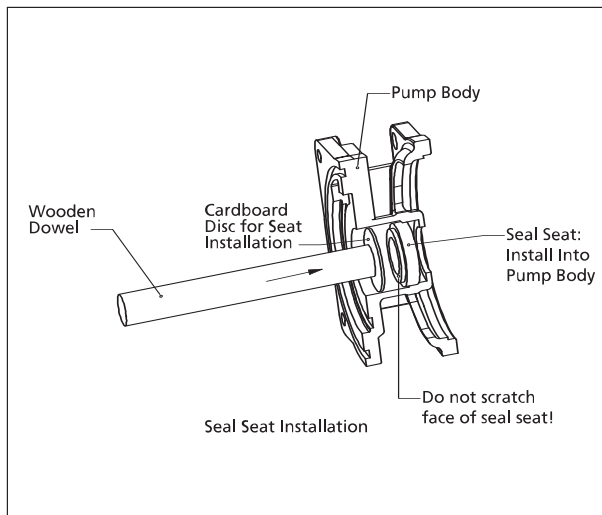

Figure 6 - Seal Seat Installation
3. Wet the rubber portion of the new seal seat (part of Ref. No. 4a) with a light coating of soapy water. While wearing clean gloves or using a clean light rag, press seal seat squarely into adapter recess. Use the cardboard washer (usually supplied with new seal) to place over the polished ceramic surface and use a piece of pipe or dowel rod to press in firmly but gently (See Figure 6). Avoid scratching the ceramic face, usually white.